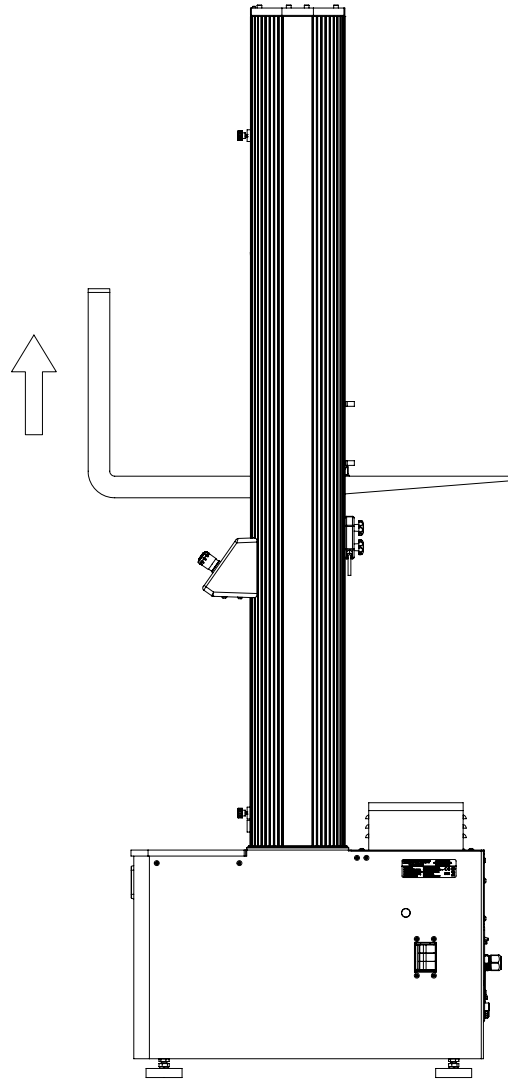

Figure 22. Lifting the Frame from the Crosshead
1. Using a forklift with padded forks or protective material around the crosshead, carefully insert the forks under the crosshead between the columns. See Figure 22 on page 74.